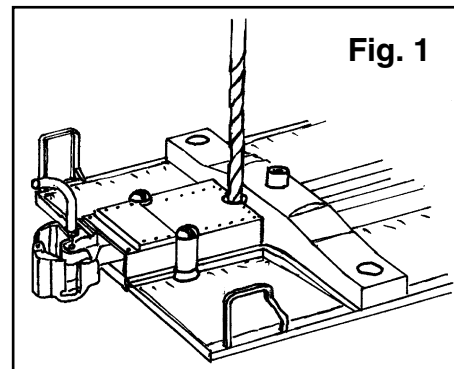

Fig. 1
**1)** With trucks removed, drill 9/64 (3.5mm) hole through back hole of gearboxes and through floor. see **Fig. 1**